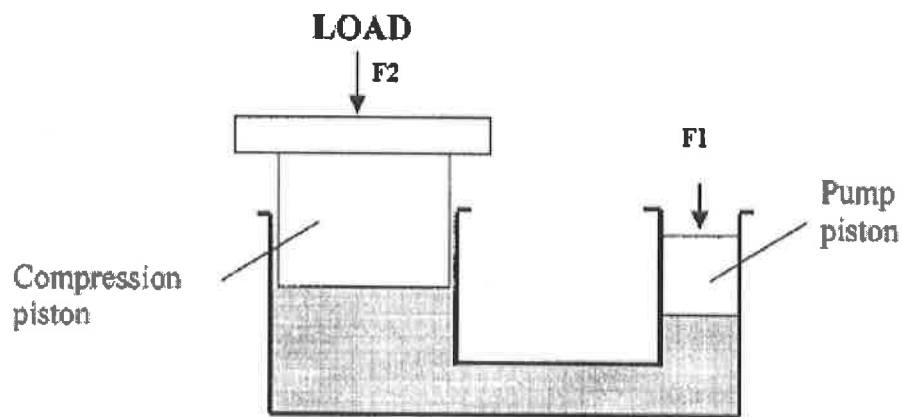

Figure 2
- a) A hydraulic jack has a compression piston diameter of 400mm and pump piston diameter of 30mm as shown in figure 2 below. If the load on the compression piston is 1800 N, and need to be raised by 12mm, calculate the force (in N) and stroke needed for the pump piston (in mm).